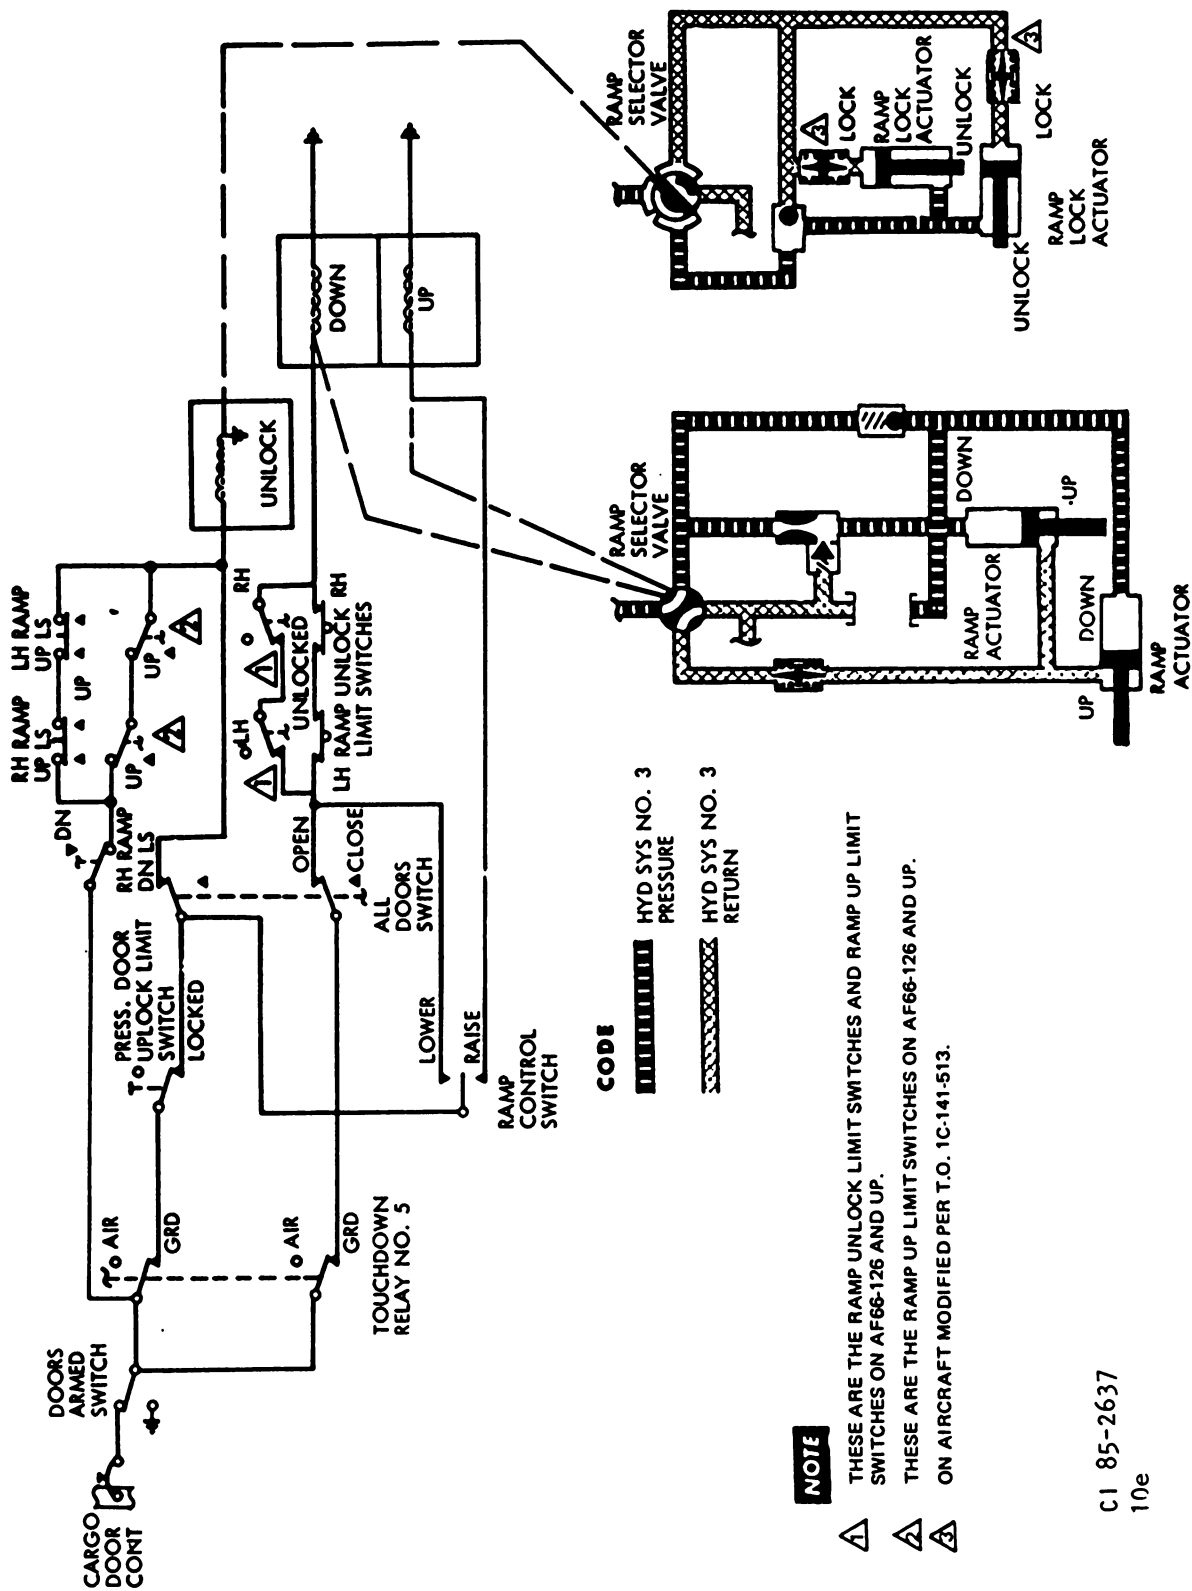

Figure 7-12. Ramp ground operation (open).
Cargo Ramp Operation. The cargo ramp is actuated by two hydraulic cylinders extending from the aircraft structure to the sides of the ramp (fig. 7-1, item 1). A removable stop link is provided on each side to limit ramp travel when the ramp is to be lowered to the horizontal position. If the ramp is to be lowered to the ground for ground loading (fig. 7-12), the stop link must be disconnected. The links can then be pushed up into a stowage tube which has a stowing clip inside at the top of the tube. This clip also holds the link when the ramp is in the fully UP position. On some aircraft that are not modified, two sets of five locking hooks lock the ramp in the CLOSED position. On those aircraft that are modified, two sets of five pins lock the ramp in the CLOSED position. One set is used on each side. Each set of locking pins is actuated by a hydraulic cylinder which pushes or pulls a train of rods to which the pins are attached. The pins slide through blocks located along the sloping longeron and mating clevises on the cargo ramp.